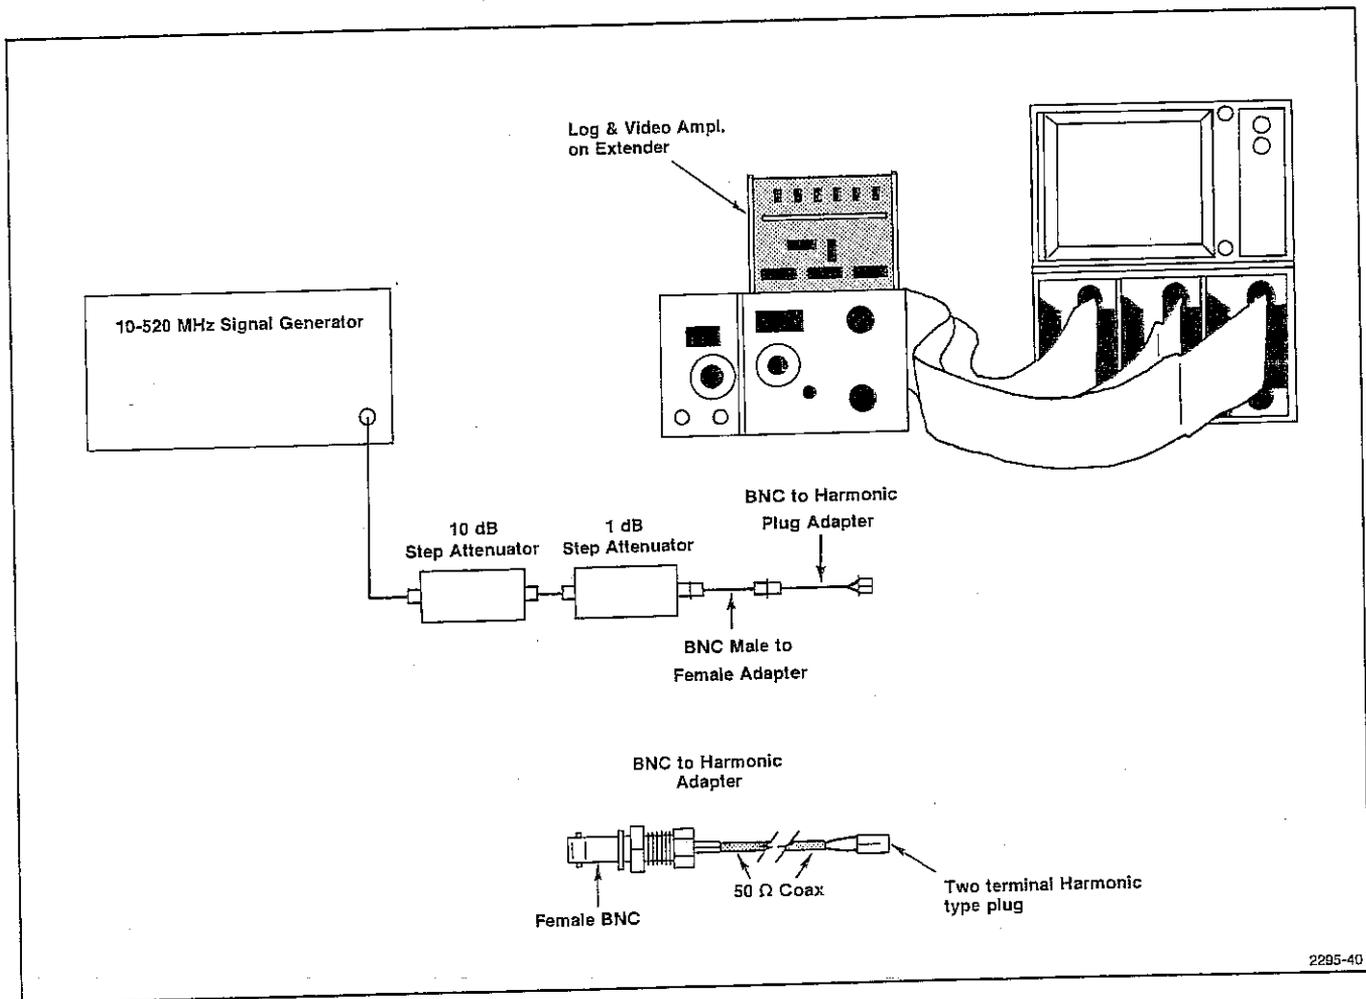

Fig. 4-32. Log and Video Amplifier Module on an Extender, Ready for Calibration.
a. To gain access to the adjustable components of this circuitry, the Log and Video Amp Module Assembly must be extended from the instrument. Remove the shield plate between the Log and Video Amplifier and Center Frequency DVM modules, then remove the Log and Video Amplifier module as previously described. Test equipment setup is shown in Fig. 4-32.